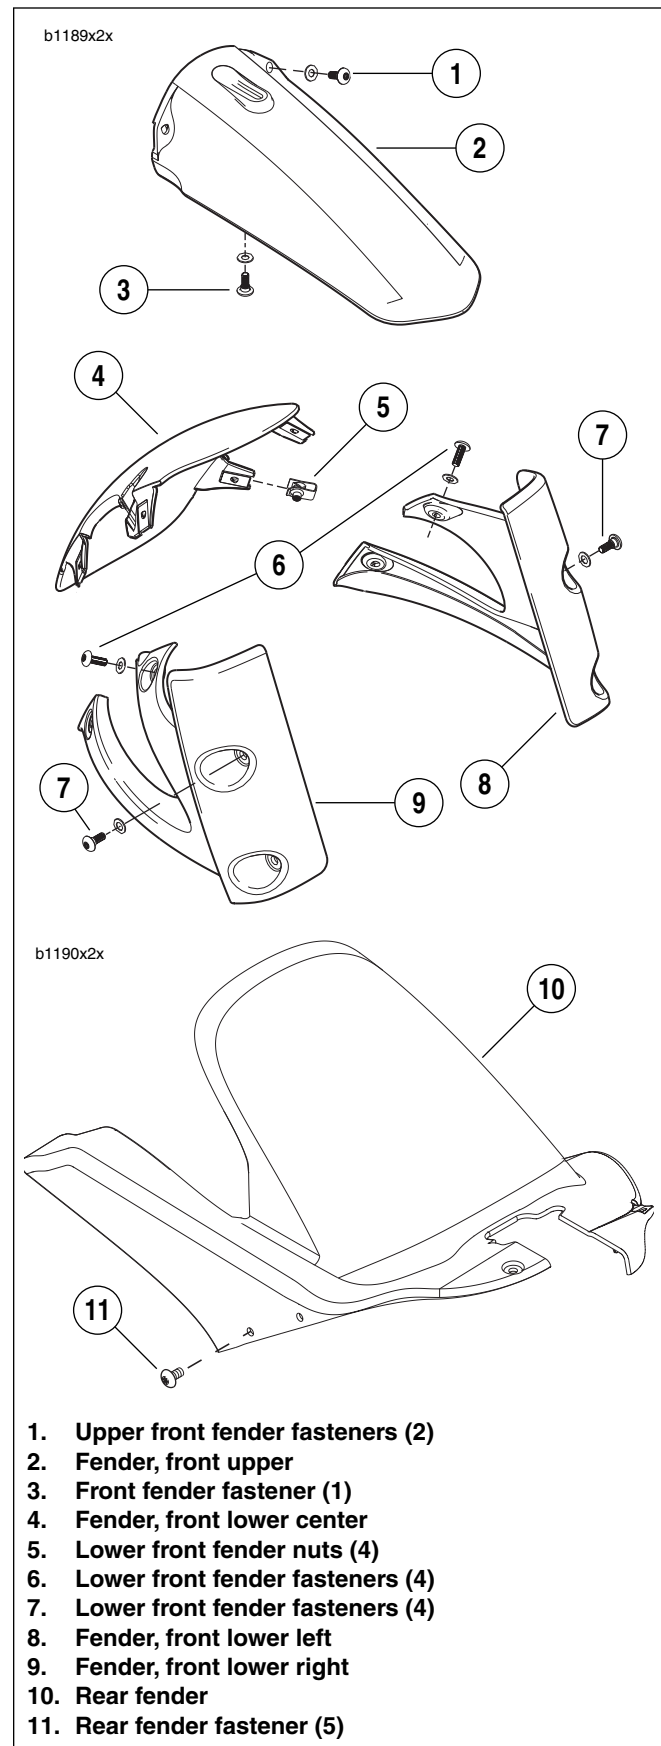

Figure 2-123. Front and Rear Fenders
1. See Figure 2-123. Remove fasteners and washers (1) securing the upper front fender (2) to lower triple clamp.
2. Remove fastener and washer (3) from headlight assembly. Carefully remove upper front fender (2).
1. See Figure 2-123. Align upper front fender (2) to fender mounts on lower triple clamp and install front fender fasteners and washers (1) and tighten to 36-48 **in-lbs** (4.0-5.4 Nm).
2. Install front fender fastener and washer (3) and tighten to 36-48 **in-lbs** (4.0-5.4 Nm).
1. See Figure 2-123. Remove fasteners and washers (11) securing the rear fender (10) to swingarm.
2. Remove rear fender (10).
1. See Figure 2-123. Align rear fender (10) to swingarm and brake line.
2. Apply LOCTITE 272 (red) and install rear fender (10) with fasteners and washers (11). Tighten to 12-36 **in-lbs**